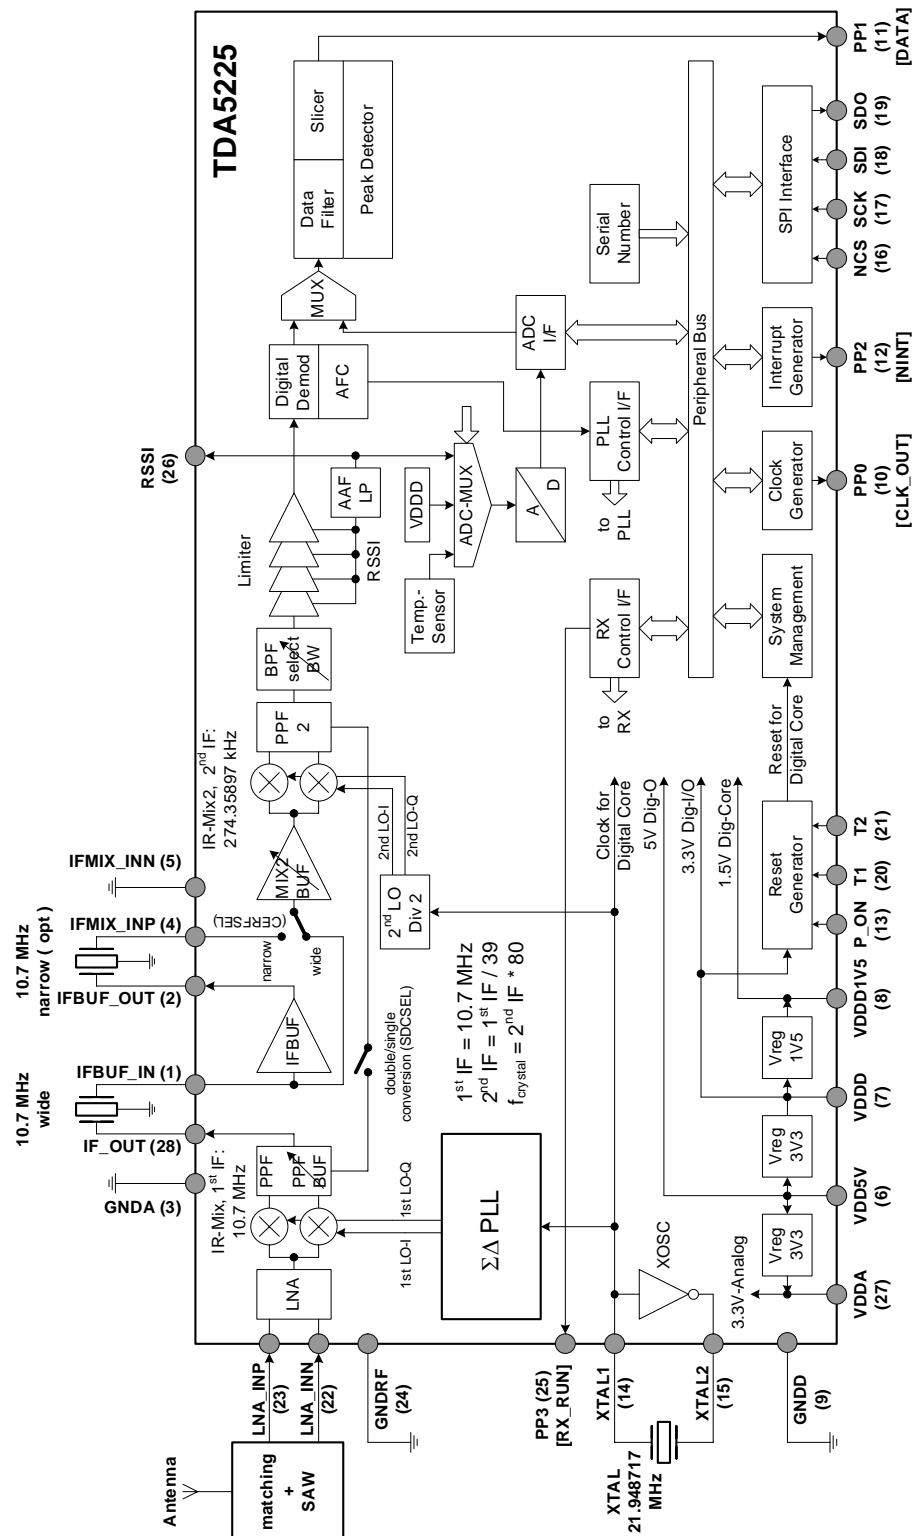

Figure 2 TDA5225 Block Diagram¹⁾
1) The function on each PPx port pin can be programmed via SFR (see also Table 1). Default values are given in squared brackets in Figure 2.